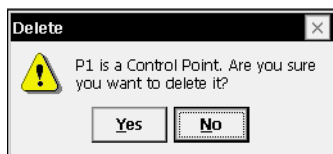

Figure 2-103. Delete Message
- ***Overwrite:*** the imported object will overwrite the existing one. If the object represents a control point, a confirmation displays that the point is deleting (Figure 2-103 on page 2-94).